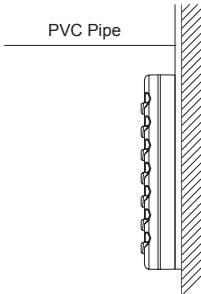
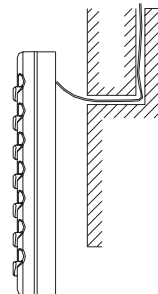

Fig.11.23 Surface Mounting of Cable
Fig.11.24 Concealed mounting of Cable
① . Do not wrap the protective tape too tight, otherwise the efficiency of thermal insulation may be decreased. Ensure that the condensate drainage flexible tube is separate from the bundled pipes.
② . After the protective work is completed and the pipes are wrapped, use seal material to block the hole in the wall, so as to prevent rain and wind from entering the room.
- ◆ If the communication line between the wire controller (85 ×85 ×16) and the indoor unit is surface-mounted, use 1# PVC pipe and make matching recess in the wall (refer to Fig.11.23); If concealed installation is adopted, 1# PVC pipe can be used (Refer to Fig.11.24).